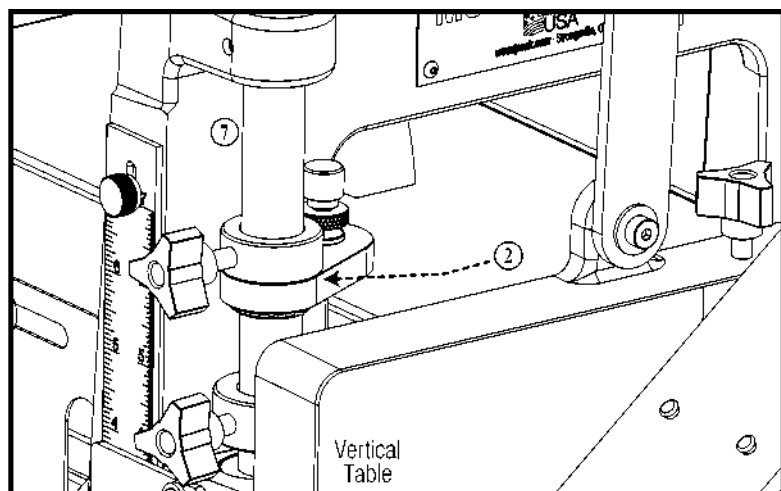

FIGURE 2.
2. Swing the Micro Adjust towards the center of the machine until the swing arm contacts the vertical casting. **FIGURE 2.**